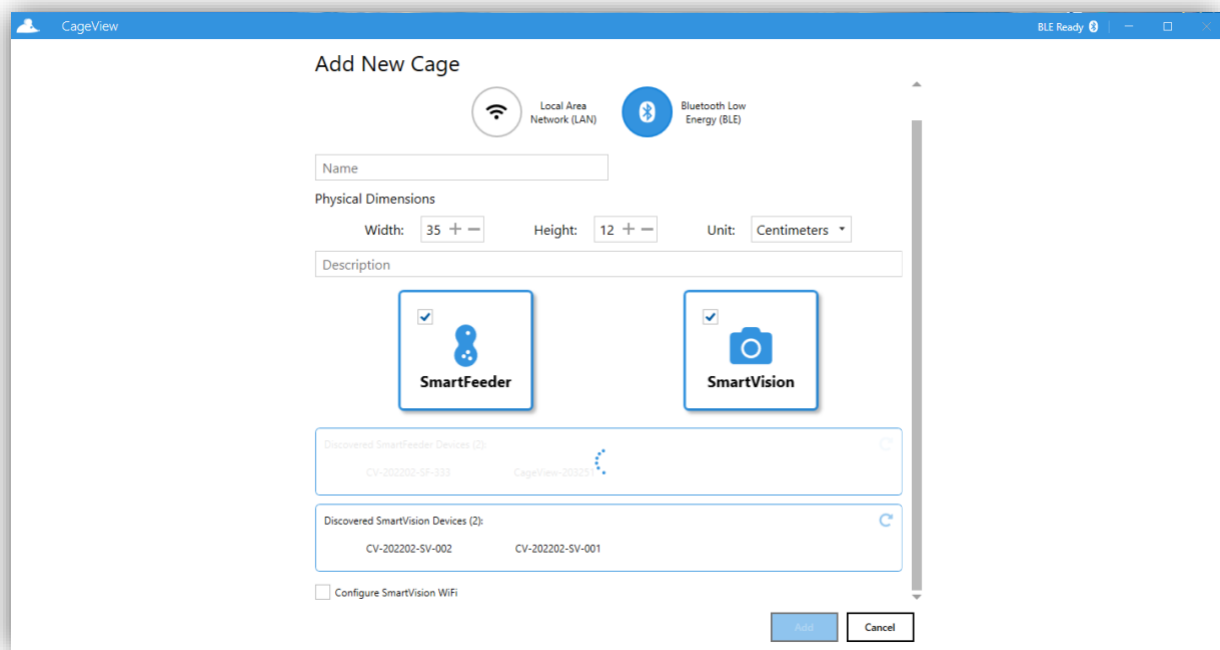

Figure 10. Add a BLE cage – scanning
5.1.5. Clicking on the "Add Cage" button (represented by a plus icon) opens the add cage, as shown in **Figure 10**, to add BLE CageView.
5.1.6. To add a BLE CageView, choose "**Bluetooth Low Energy (BLE)**" (as shown in **Figure 10**). Ensure the Smart Feeder is on (by clicking the push button). The software starts initiating a BLE scan for nearby CageView. A spinning animation is shown when a BLE scan is in progress.